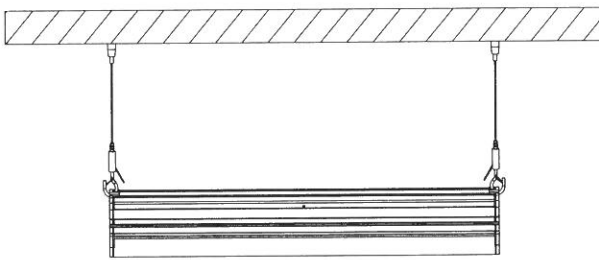

FIG.1
1. Hook type: Hung up by hooks, installed after the lock screw, slide prevention lamp, injured people(FIG.1)。